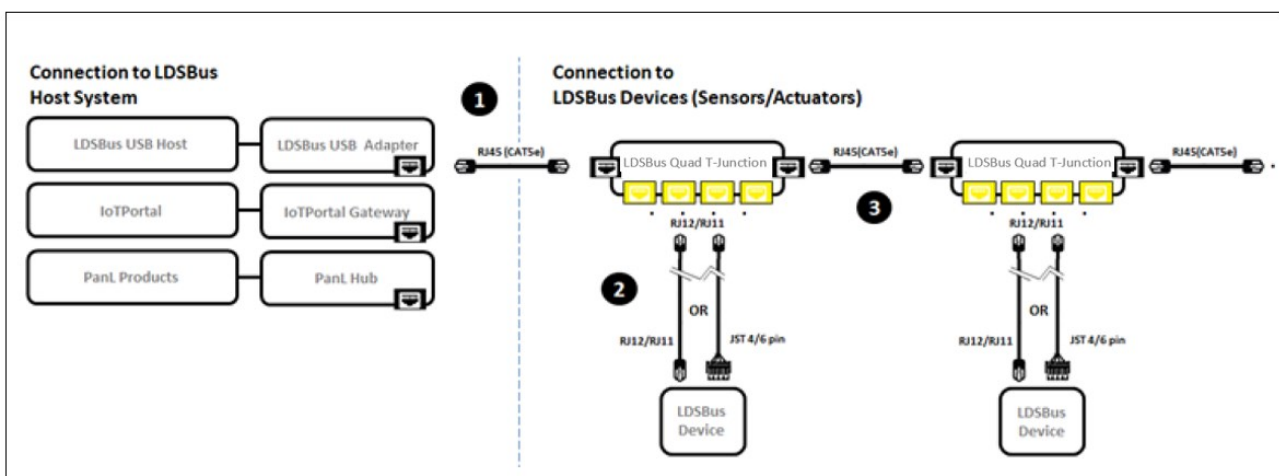

Figure 2 - LDSBus Quad T-Junction 2 in LDSBus System – Connection Diagram
Figure 2 illustrates the connection of the LDSBus Quad T-Junction 2 (LDSBus Device) in an LDSBus system.
2. Connect the configured LDSBus device(s) to the LDSBus Quad T-Junction 2 as shown in Figure 2.
3. If there is more than one LDSBus Quad T-Junction 2, chain them together as shown in Figure 2.